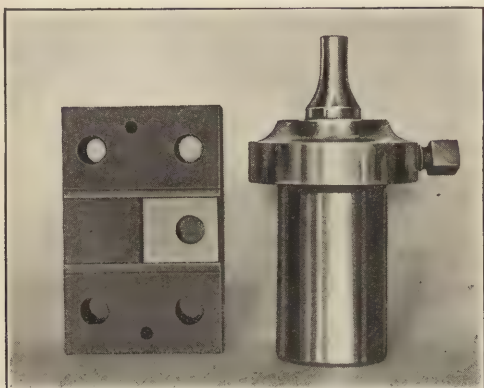

Fig. 18. 7-16" Punch and Die.
**Treatment of Punches and Dies.**—The  $\frac{7}{16}$ -inch punch and die shown in Fig. 18 have already punched